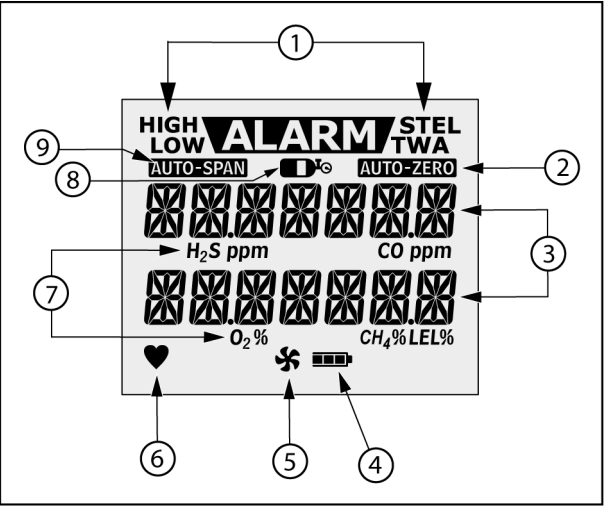

Figure 2. Display Elements
- Figure 2, and Table 3, describe the detector's display elements.